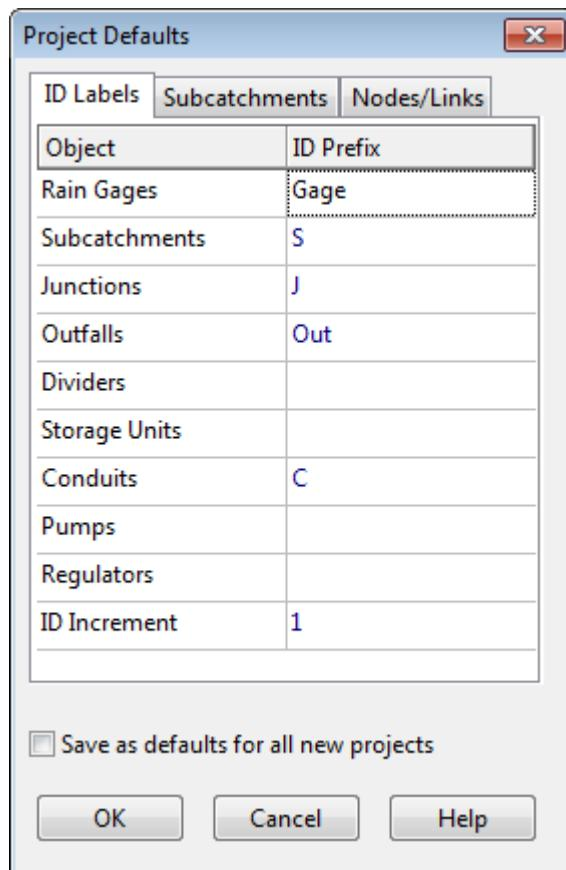

Figure 2-2 Default ID labeling for tutorial example
3. On the ID Labels page of the dialog, set the ID Prefixes as shown in Figure 2-2. This will make SWMM automatically label new objects with consecutive numbers following the designated prefix.